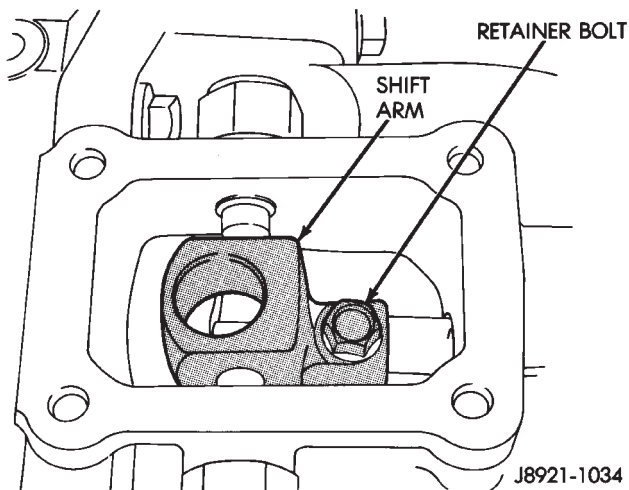

Fig. 44 Install Shift Arm Retainer Bolt
(12) Rotate the shifter arm shaft until the hole in the shift arm is aligned with the hole in the shaft.
(13) Install the shift arm retainer bolt and tighten to 38 N·m (28 ft. lbs.) (Fig. 44).